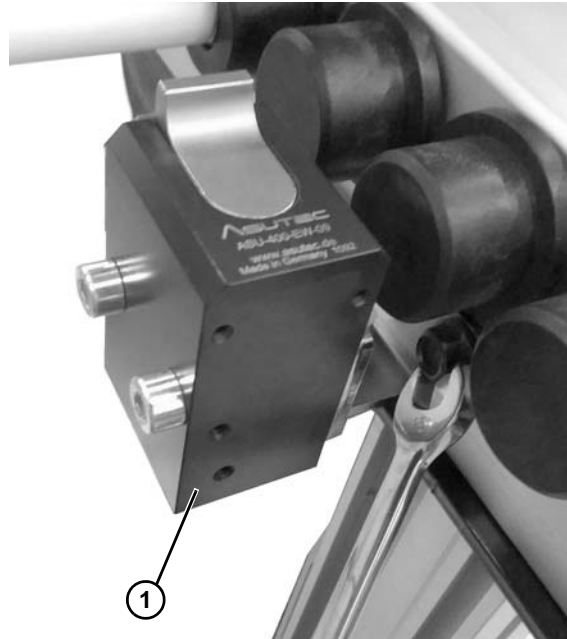

Figure 55
- Install pallet stop (**Figure 55, item 1**). (Refer to “Pallet Stops” starting on page 6.)